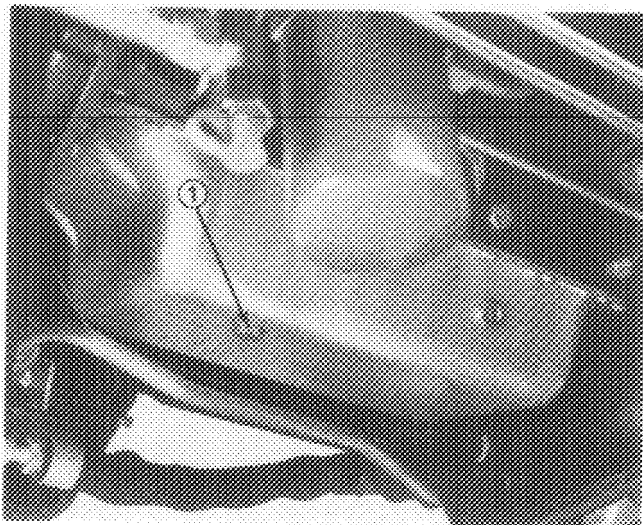

Figure 35
## ENGINE OIL AND FILTER (Fig. 35–36)
1. Remove drain plug (Fig. 35) and let oil flow into drain pan. When oil stops, install drain plug and new plug seal.